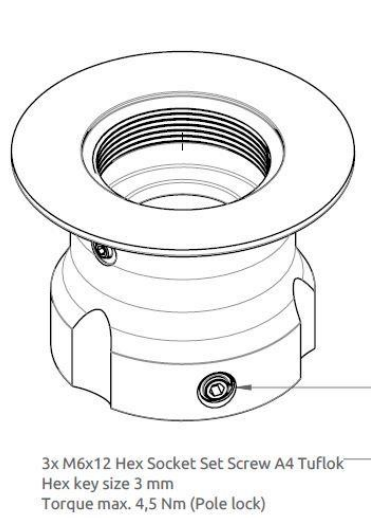
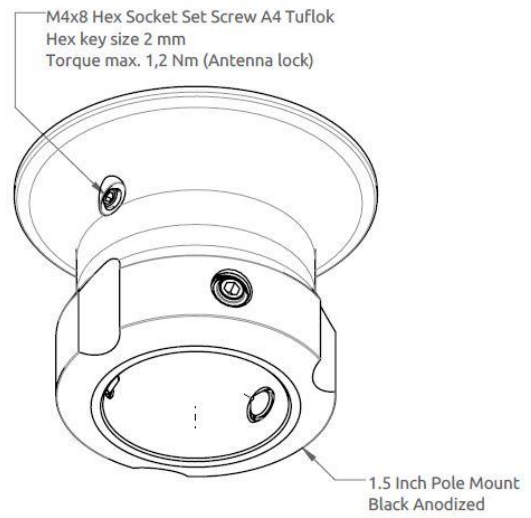

Figure 19: Pole Mount (1.5" pipe), Antenna Unit.
Figure 20: Pole Mount (1.5" pipe), Antenna Unit.
The Pole Mount (1.5" pipe), Antenna Unit is illustrated in Figure 18 to Figure 20.
4. Screw the pole mount (clockwise) on the LT-3130 Antenna Unit, and fasten the antenna lock pinot screw, as illustrated in Figure 20 (max torque = 1.2 Nm)
5. The LT-3130 Antenna Unit and pole mount can now be mounted on the 1.5" pipe. Fasten the three pole lock pinot screws, as illustrated in Figure 19 (max torque = 4.5 Nm)
The Pole Mount (1.5" pipe), Antenna Unit only supports a 1.5" pipe. The pinot screws (antenna and pole lock) torques are specified in Figure 19 and Figure 20. The pole mount is made of milled aluminum (anodized). The pinot screws are made of A4 stainless steel.